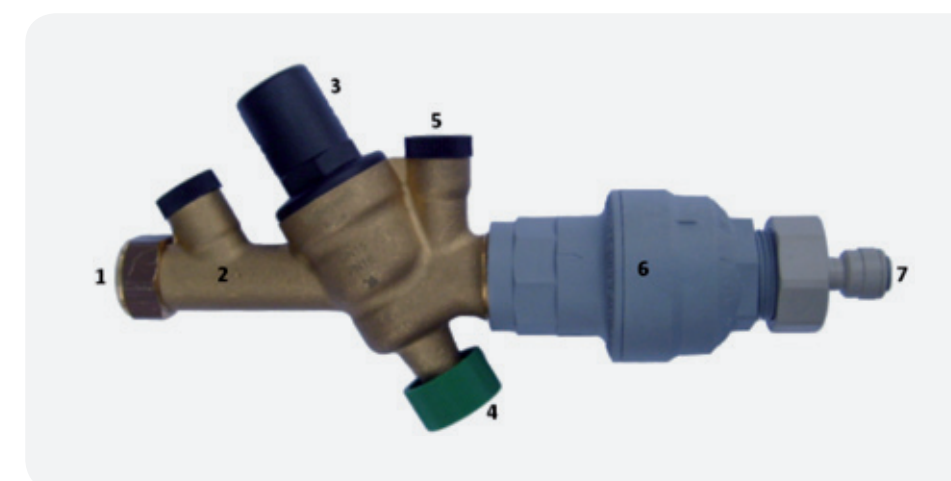

Fig 1. Waterlogic Installation Kit
- Figure 1 is the recommended installation kit.